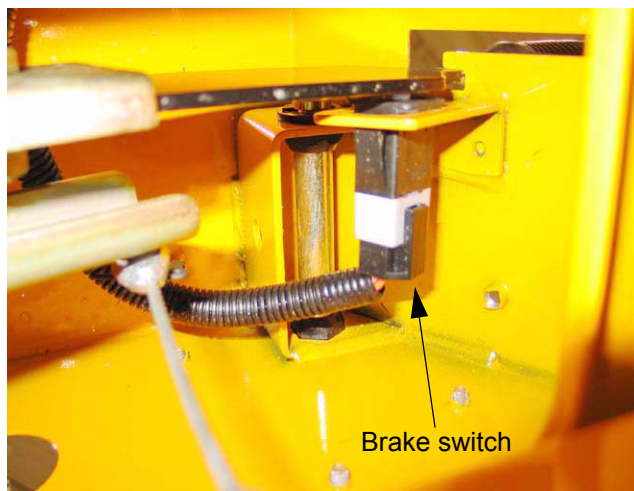

Figure 15.2
15.2. The PARKING BRAKE SWITCH is located under the seat box frame. See Figure 15.2.